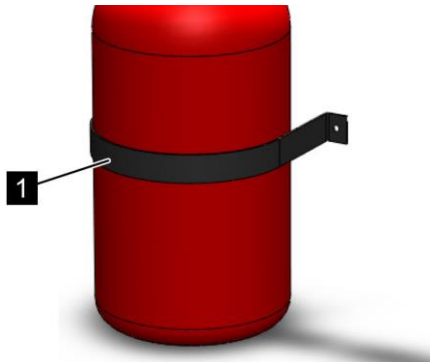

Fig. 184: Check fastening
1. ➤ Check whether the clamp (Fig. 184/1) is correctly fastened on bearing structural elements.